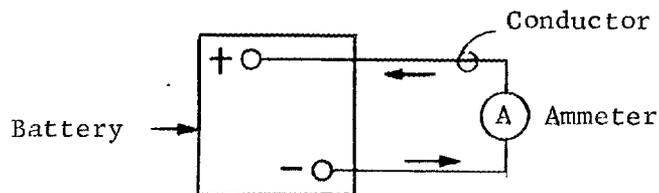

Fig. V-3. Direction of Electron Flow
43. When a conductor is connected between the terminals (electrodes) of a battery, as in Figure V-3, electrons are repelled from the negative pole and are attracted to the _____ pole. Since this electron movement is always in one direction, it is called _____ current. The ammeter (Figure V-3) is a _____ current-measuring instrument.
44. Figure V-3 illustrates a simple electrical "circuit", the path along which electrons flow from the negative pole of an electrical source to the positive. In a practical system, the circuit must generally contain more components to limit the amount of current and to convert the energy to useful work.